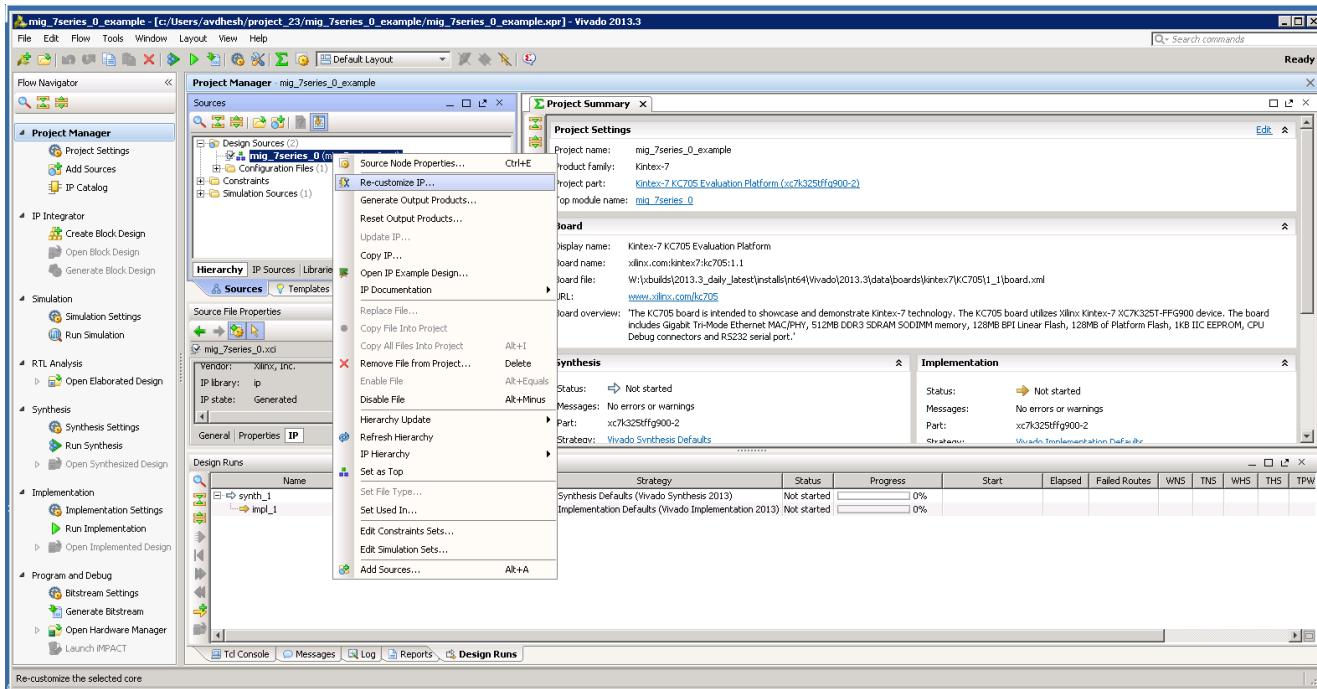

Figure 2-37: Recustomize IP
- Recustomization of the MIG IP core can be done by using the **Recustomize IP** option. It is not recommended to recustomize the IP in the `example_design` project. The correct solution is to close the `example_design` project, go back to original project and customize there. Right-click the XCI file and click **Recustomize IP** (Figure 2-37) to open the MIG GUI and regenerate the design with the preferred options.